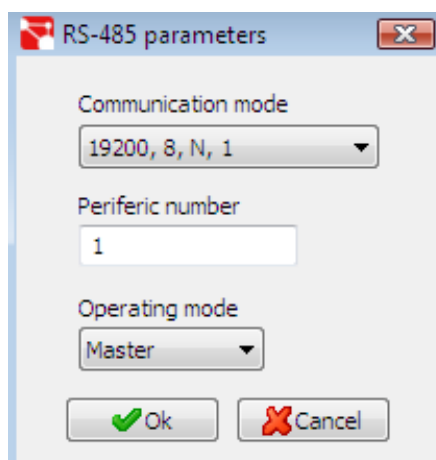

Figure 8: Configuration software: RS-485 parameters.
5.- Press the  Modify button to change the **RS-485** communication parameters. The window shown in **Figure 8** will be displayed.